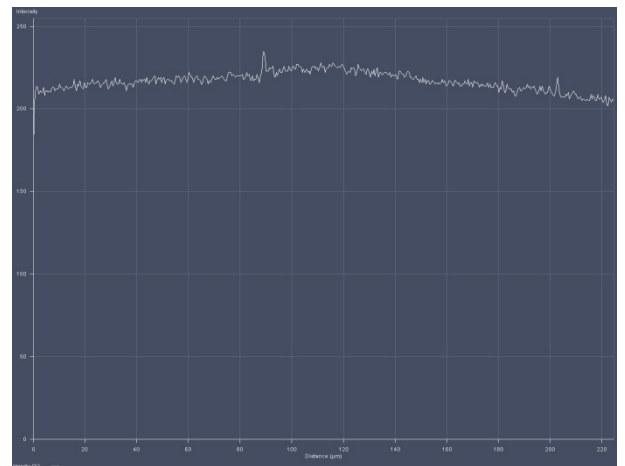

Fig. 312 Line diagram at upper cover slip surface
- Having slowly moved over a short distance the line position will decline again to a minimum and then rise again to a second maximum (Fig. 312), which corresponds to the upper cover slip surface.